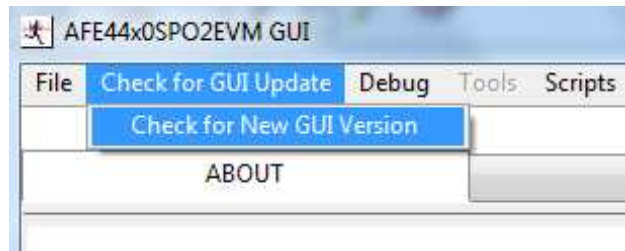

**Figure 39. PC Application Firmware Upgrade – 4**
- Once the device is programmed successfully, as shown in Figure 39, the device resets and reloads with the new firmware. Close the *Firmware Upgrade* application by clicking on the **Close** button and the PC GUI application automatically restarts the GUI after 4 to 5 seconds.